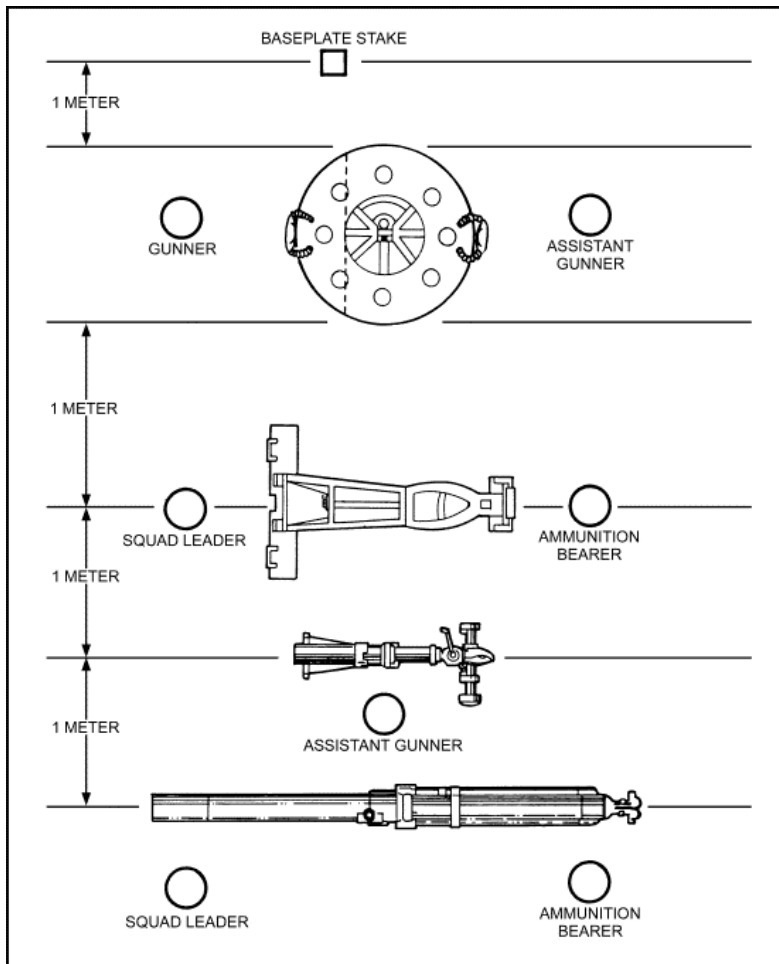

Figure 9-2. Diagram of equipment layout and position of personnel for the gunner's examination (4.2-inch mortar).
(1) (*All mortars*) The candidate arranges his equipment as outlined in Figures 9-2 through 9-6. The emplacement is marked before the examination.